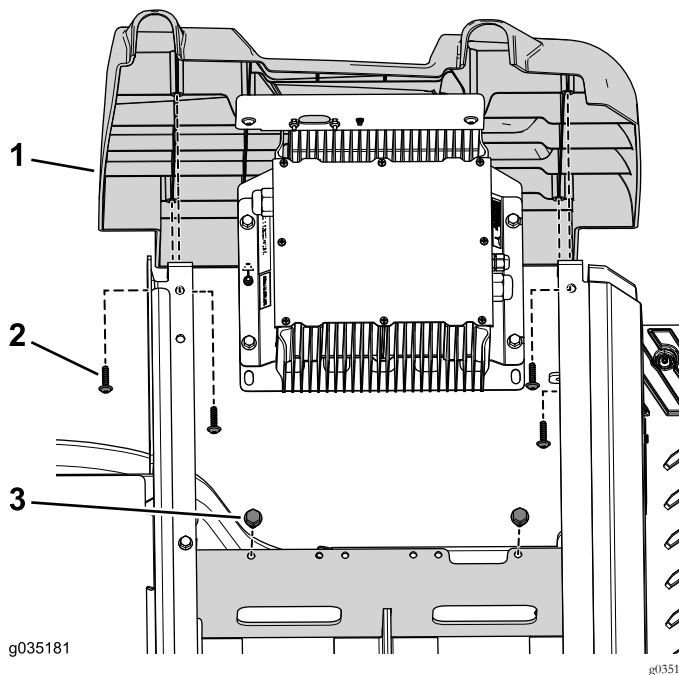

Figure 88
9. Use the 2 bolts (3/8 x 3/4 inch) to secure the charger bracket to the battery tray (Figure 88).